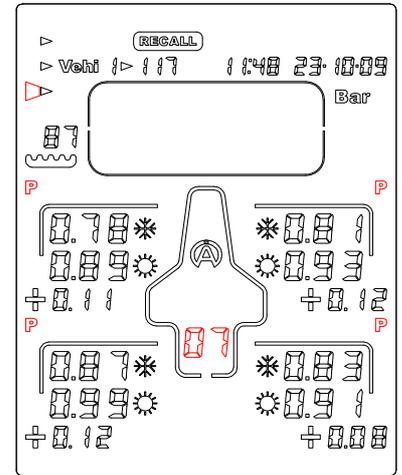

Figure 10
- 4) With the button  or , select the « **FACE** » (figure 10)
On the example « Figure 10 », the Tyrecontrol displays for the vehicle 1, the first phase of data of the last « Set » recorded, that is to say the tires pressures before ❄ and after ☀ race + the gaps.